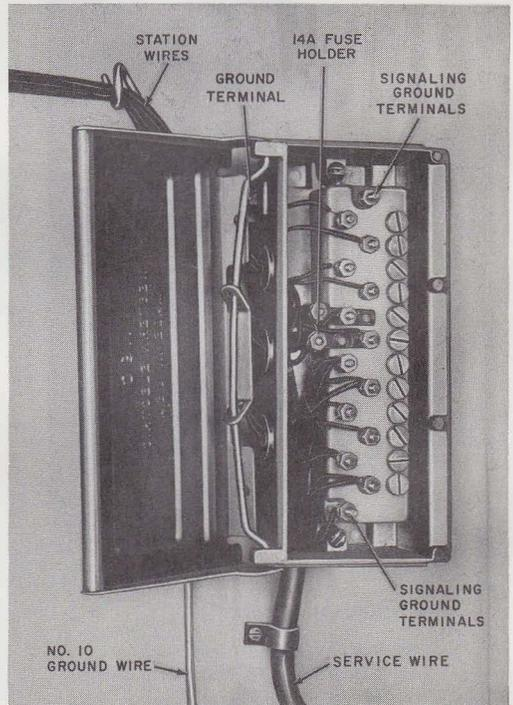

Fig. 12—116C Protector
3.15 The **116C protector** (Fig. 12) consists of a nonconductive base containing twelve binding posts, twelve 2A1A protector units, and two binding posts for signaling ground connections. The base is housed in a metal container with a hinged metal cover. The metal housing is equipped with a clamp for the station ground wire. The wire used to ground the 116C protector should be no smaller than a No. 10 (see Table B). The 116C protector is designed for outdoor or indoor use and is generally used with 6-pair multiple drop wire.